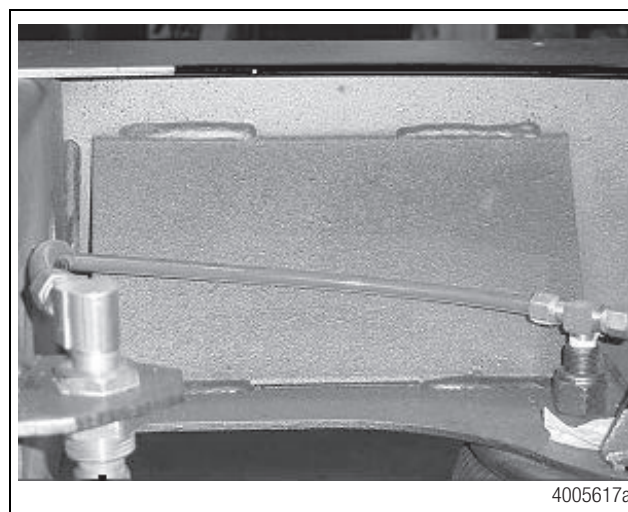
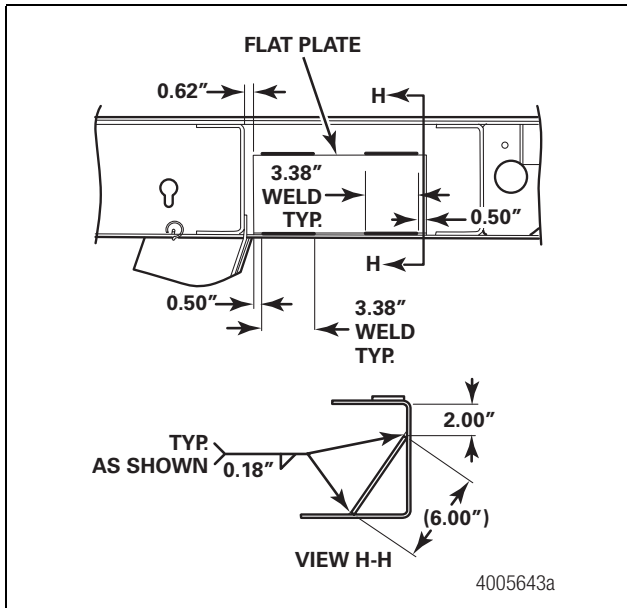

Figure 16
Figure 17
8. Position and weld the enhancement plates between cross members three and four. Refer to Figure 16 and Figure 17.